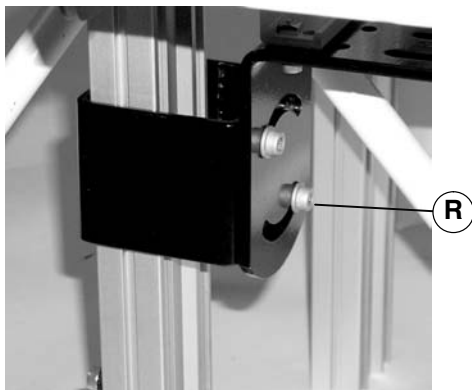
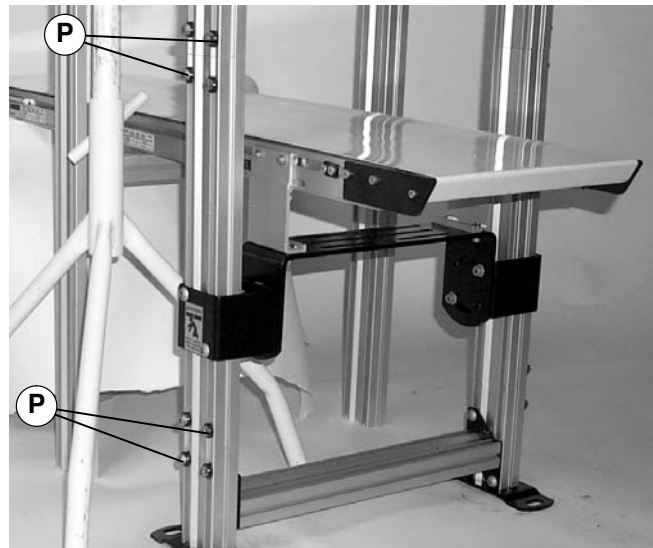

Figure 14
Figure 15
- Remove two flange socket head screws (R of Figure 14) from the conveyor to be serviced.
- Loosen eight screws (P of Figure 15).
- Reverse steps to reinstall stand section (Y) and leg support bracket (H) on multi tier stand when service is complete.
- Tighten eight screws (P of Figure 15) to 130 in-lbs (15 N-m) and two flange socket head screws (R of Figure 14) to 24 ft-lb (33 N-m).